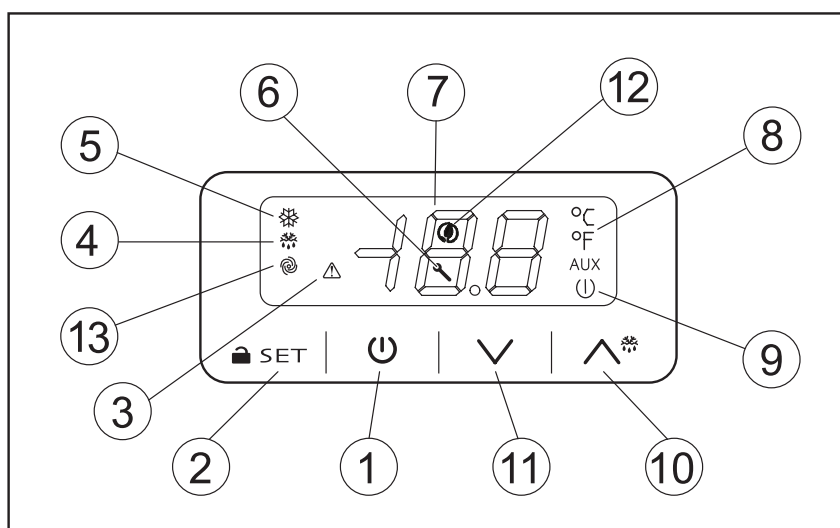

Fig.3
Startup sequence (fig.3).
► Push the ON/OFF key (1) for 4 seconds	The display will turn on and show the refrigerated pizza display unit temperature
9.2.2 Shutdown methods (fig.3)
► Push the ON/OFF key (1) for 4 seconds	The display will turn off and the current presence icon (9) will turn on.
9.2.3 Temperature setting (fig.3)
9.2.4 Manual defrost (Fig. 3)
9.2.5 Keyboard lock (fig.3)
9.2.6 Alarms and signals (fig.3)